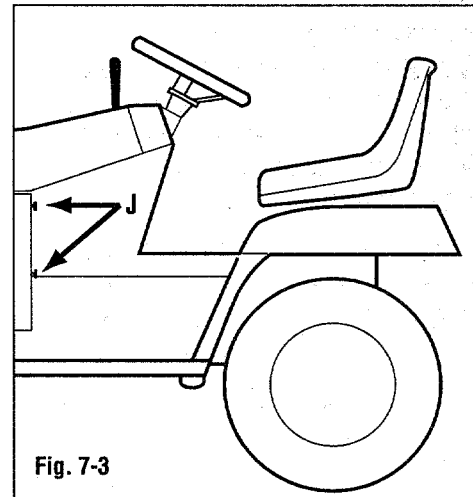
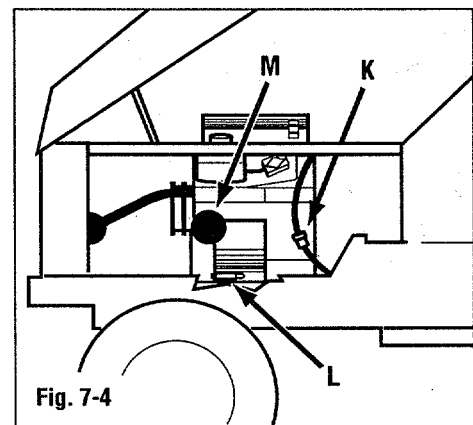

Fig. 7-3
Fig. 7-4
1. To access engine from the side, remove left side panel by unscrewing and removing knobs (J, Fig. 7-3).
2. Remove yellow cap from oil drain tube (L, Fig. 7-4). Attach oil drain hose to oil drain tube.
2. Unscrew and remove old filter (M, Fig. 7-4). Wipe off filter adapter (area behind filter).
4. Close oil drain valve (L). Place cap on oil drain tube. Install side panel.
Replace fuel filter every 100 operating hours. See engine manual or your dealer for more specific information and fuel filter replacement specifications. To access fuel filter, unscrew and remove knobs (J, Fig. 7-3). Remove left side panel. Fuel filter (K, Fig. 7-4) is located along the fuel line, extending from the fuel tank. This filter is disposable. Replace when dirty.